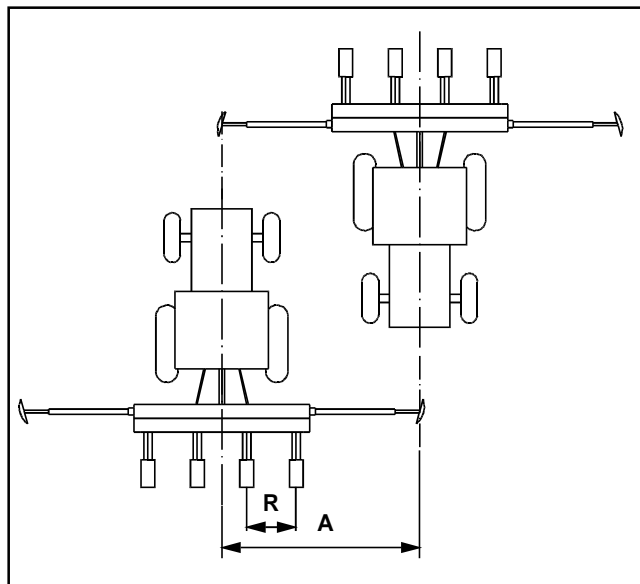

Fig. 6.10
6.2.3 Track indicator length calculation for track marking in tractor centre (Fig 6.10)